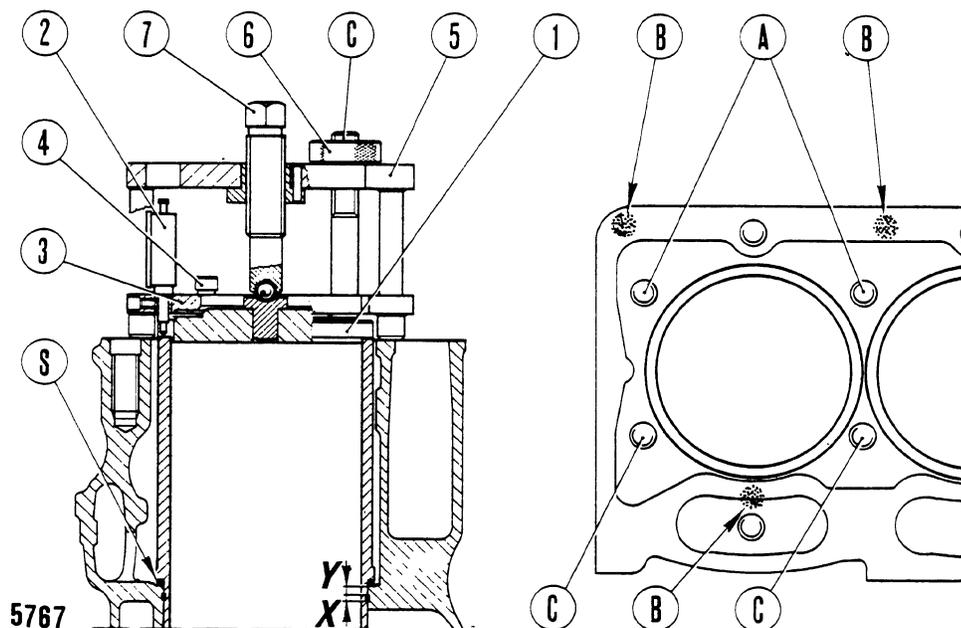

Fig. 6 - Checking cylinder sleeve proudness relative to crankcase top.
- Remove old sleeves and shims (S, Fig.6); if applicable, for later relocation , mark each sleeve, shim and barrel set.
- Fit in barrel only one sleeve, complete with shim (S); on the fitted sleeve locate presser plate (1) of fixture 75296228.
- Rest plate (3) complete with its 4 dial gauges on a surface plate and zero the gauges
- Position plate (3) on crankcase through the two cylinder head studs (A) and make sure that gauge plunger rods are properly inserted through the slots in plate (1). Connect the plate with plate (3) by tightening screws (4).
- Introduce top plate (5) complete with screws (7) onto the four cylinder head studs (A, C) and secure to crankcase by the four knurled ring nuts (6)
- Tighten screw (7) to specified torque of 10.8 daNm and check on all four dial gauges that proudness of the sleeve is within 0.13 to 0.17 mm; if not, vary the thickness of shim pack (S) as required.